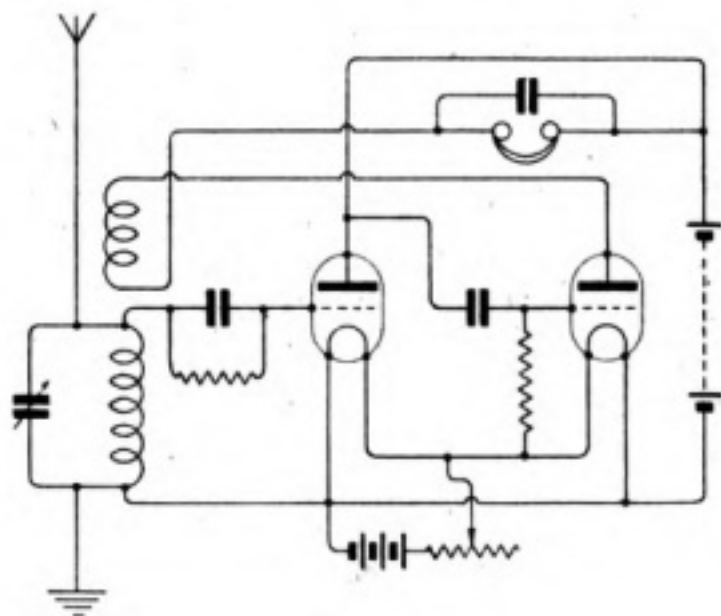

Fig. 4.
(1) Impossible to say without examination. It might possibly be due to a break in the coil, or a bad connection between it and the earth. (2) Yes, preferably as an H.F. amplifier. (3) See diagram (Fig. 4). (4) If the howls are due to your